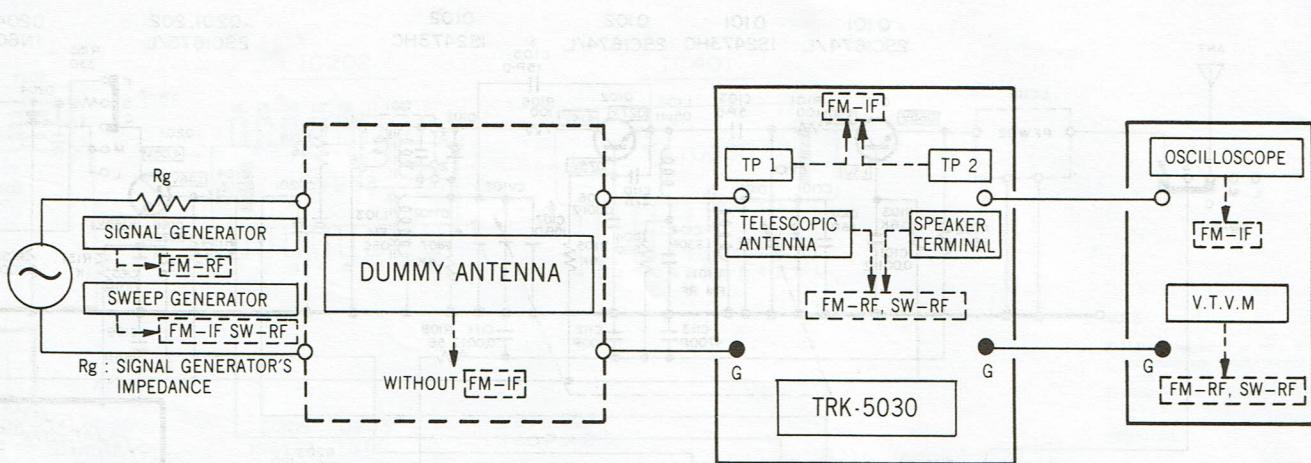

Fig. 12
| | | | Fig. 12 | Max. | High | 18.5MHz | High freq. end | CT156 | Maximum output |
| (3) | LW | Tracking | Fig. 12 | Max. | High | 16MHz | 16MHz | CT153 | |
| | | | Fig. 12 | Min. | High | 87MHz For Germany : 87.5MHz | Low freq. end | L103 |  |
| (4) | SW | Covering | Fig. 12 | Max. | High | 90MHz | 90MHz | L101 | |
| (6) | FM | Discri. | Fig. 12 | Max. | High | 87MHz For Germany : 87.5MHz | Low freq. end | L103 |  |